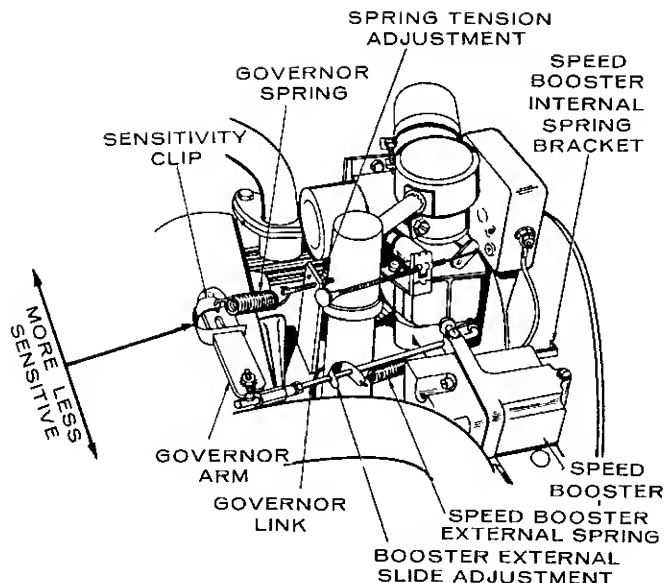

FIGURE 21. GOVERNOR AND SPEED BOOSTER
NOTE: If carburetor and the following governor adjustments have already been made and the governor action is still erratic, replace the governor spring (Figure 21) with a new one and readjust the governor. Springs lose their calibrated tension through fatigue after long usage.
2. Remove the speed booster external spring from the bracket slide on the governor link (Figure 21).
3. Refer to the voltage and speed charts. If needed, increase the speed by increasing tension on the governor spring (Figure 21). Decrease tension on the governor spring to reduce speed.
3. Increase sensitivity (closer regulation) by shifting adjusting clip toward governor shaft (Figure 21). Move clip away from governor shaft to decrease sensitivity.
1. After sensitivity adjustment, connect booster external spring to slide on governor link (Figure 21).
4. If the speed increases more than the no-load frequency when the load is applied, lessen the speed booster's internal spring tension. To change tension, pull out the spring bracket and move the pin to a different hole (Figure 21). If speed decreases when the load is applied, increase the booster's internal spring tension.